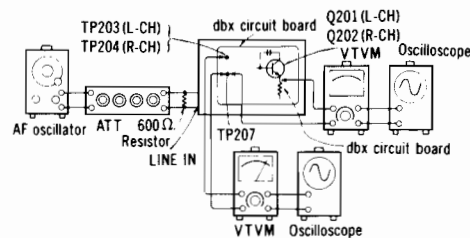

Fig. 14
1. Make the connections as shown in fig. 14, and apply 100Hz -27dB signal from LINE IN, and set the noise reduction selector to dbx tape position.